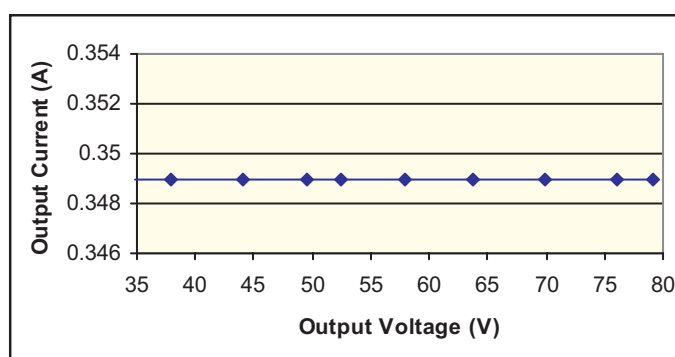

Fig. 3. Output Current vs. Output Voltage
2. Current Regulation: Figs. 3 and 4 show the output current regulation vs. output voltage and input voltage respectively. The total current regulation (line and load combined) is found to be less than 1%.